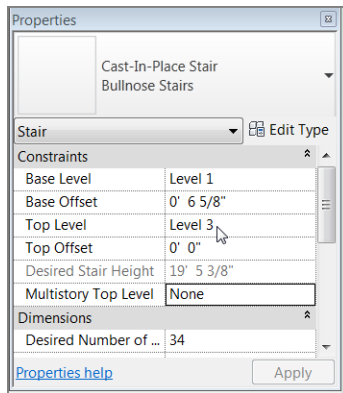

FIGURE 10.64: The Base Offset value is set to 6 5/8" (152mm).
2. Set Base Offset to 6 5/8" (152mm), as shown in Figure 10.64.